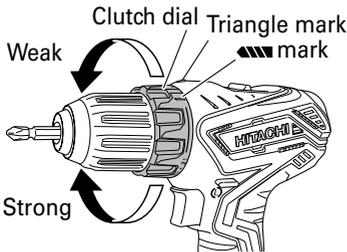

Fig. 9
6. Confirm the clutch dial position (see Fig. 9). The tightening torque of this unit can be adjusted according to the clutch dial position, at which the clutch dial is set.
- (2) Tightening torque indication (See Fig. 9)
- (3) Adjusting the tightening torque (See Fig. 9)